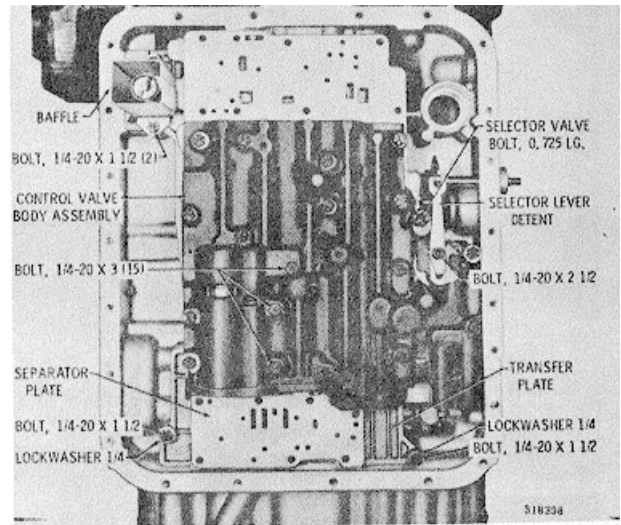

Fig. 5-16 Control valve body bolt locations
(7) Remove eighteen bolts from the control valve (fig. 5-16). Remove one selector lever detent retainer bolt. Do not remove the bolt (0.725-long) that retains the selector valve.
(8) Remove the four bolts, two washers and baffle that retain the oil transfer plate (fig. 5-16).